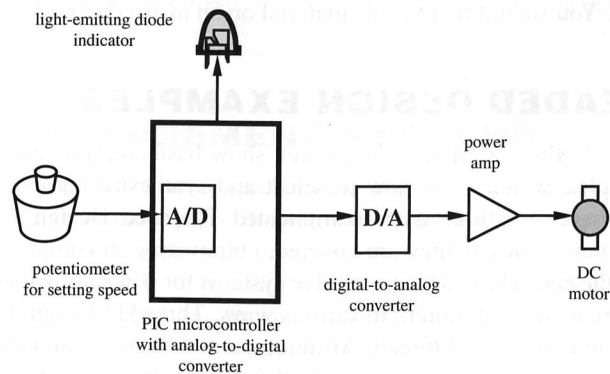

Figure 1.4 Functional diagram of the DC motor speed controller.
This design example deals with controlling the rotational speed of a direct current (DC) permanent magnet motor. Figure 1.4 illustrates the major components and interconnections in the system. The light-emitting diode (LED) provides a visual cue to the user that the microcontroller is running properly. The speed input device is a potentiometer (or pot), which is a variable resistor. The resistance changes as the user turns the knob on top of the pot. The pot can be wired to produce a voltage input. The voltage signal is applied to a microcontroller (basically a small computer on a single integrated circuit) to control a DC motor to rotate at a speed proportional to the voltage. Voltage signals are “analog” but microcontrollers are “digital,” so we need analog-to-digital (A/D) and digital-to-analog (D/A) converters in the system to allow us to communicate between the analog and digital components. Finally, because a motor can require significant current, we need a power amplifier to boost the voltage and source the necessary current. Video Demo 1.6 shows a demonstration of the complete working system shown in Figure 1.5.